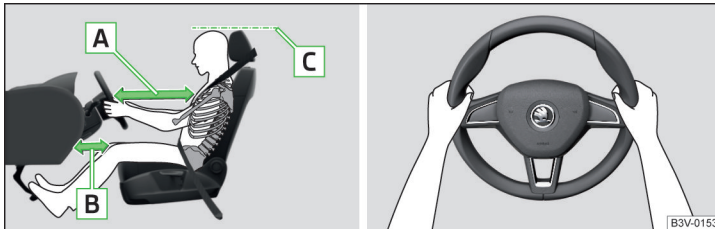

Fig. 1 Correct seated position for the driver/correct steering wheel position
- ✓ For vehicles with driver knee air-bag adjust the driver's seat in a forward/back direction so that there is a gap of at least 10 cm between the legs and the dash panel in the vicinity of the knee airbag - **B** » Fig. 1.
- ✓ Adjust the steering wheel so that the distance **A** between the steering wheel and your chest is at least 25 cm » Fig. 1.
- ✓ Adjust the head restraint so that the top edge of the head restraint is at the same level as the upper part of your head **C** » Fig. 1 (not for seats with integrated head restraint).
- When driving, hold the steering wheel with both hands firmly on the outer edge in the "9 o'clock" and "3 o'clock" position » Fig. 1. Never hold the steering wheel in the "12 o'clock" position or in any other way (e.g. in the middle, inner edge of the steering wheel or similar). In such cases, you could severely injure the arms, hands and head when the driver airbag is deployed.
- ✓ Adjust the head restraint so that the top edge of the head restraint is at the same level as the upper part of your head **C** » Fig. 1 on page 9 (not for seats with integrated head restraint).
- ✓ Adjust the head restraint so that the top edge of the head restraint is at the same level as the upper part of the head **C** » Fig. 1 on page 9.